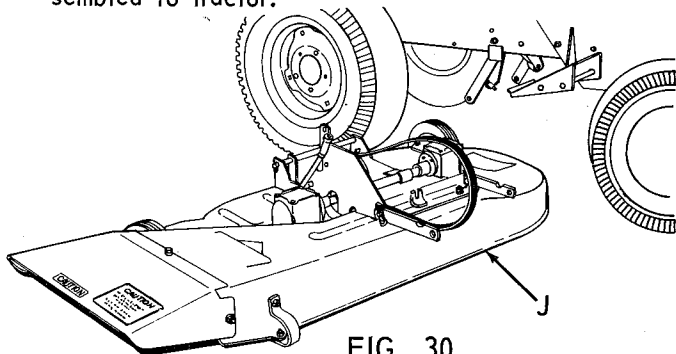

FIG. 30
7. Refer to Fig. 30. Slip mower housing (J) out from R.H. side of tractor.